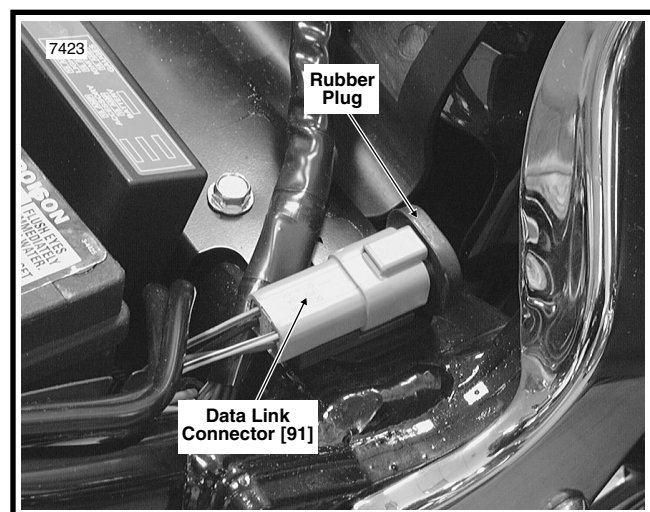

Figure 4. Locate Data Link Connector Under Seat - Softail
2. Locate Data Link connector (pin side of 4-place Deutsch) on left side of frame crossmember. See Figure 4. Push connector rearward to disengage small end of slot on attachment clip from T-stud.